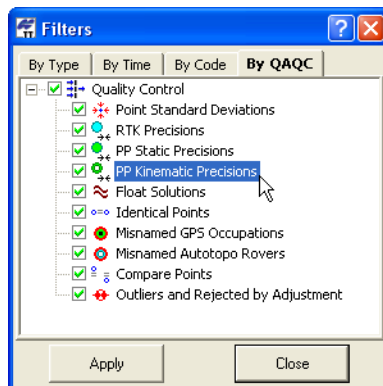

Figure 4-70. Select Quality Control Filter
- On the *By Type* tab, click the desired check marks to filter data and data types (Figure 4-70 on page 4-64).
2. On the *By QAQC* (Quality Analysis Quality Control) tab, click the desired check marks to filter data and data types (Figure 4-70).